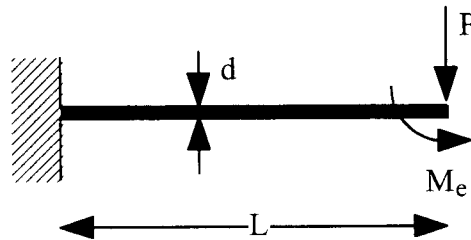

Figure 7
- (c) Figure 7 shows a cantilever of length L , depth d and breadth b , formed in a material of Young's modulus E . Derive an expression for the transverse stiffness of the beam against the load P , assuming that its free end is constrained against rotation by the moment M_e . Hence or otherwise, find an expression for the in-plane stiffness of a portal suspension formed from two cantilevers linked by a rigid strut. [6]